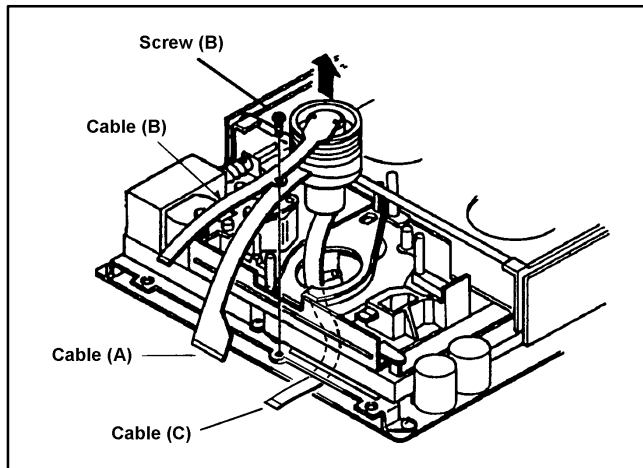

Figure 1-1-2
2. Unscrew the screw (B) which fix the cable (B) as shown in Figure 1-1-2.
3. Remove the flexible cable which connected to connector (A) on the P.C.Board (B) as shown in 1-1-1.
4. Unscrew the 3 screws which have spring from the Cylinder Unit as shown as Figure 1-1-1, then remove the Cylinder Unit without touching any mechanical parts as shown in Figure 1-1-2.